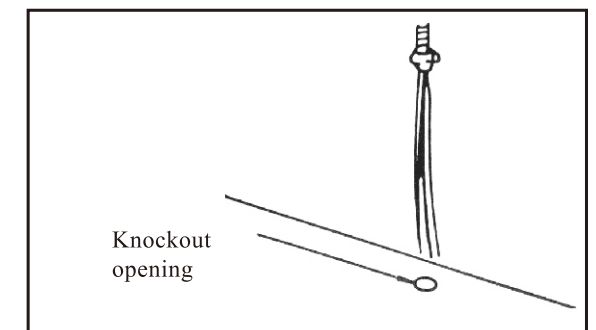

Fig. 12 Route the power supply cord
8. Locate the range hood on the bottom of the cabinet. Thread the power supply cord through the knockout and secure the power cord on the hood. (Fig. 12)